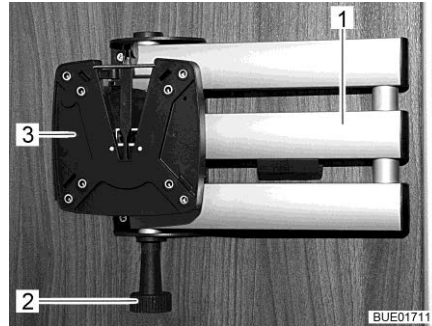

Fig. 89 Holder (two-piece jointed arm)
- Pull the release knob (Fig. 89,2). The jointed arm (Fig. 89,1) is unlocked.
- Turn the flat screen back into the original position until you hear the holder (Fig. 89,3) engage in the lock.